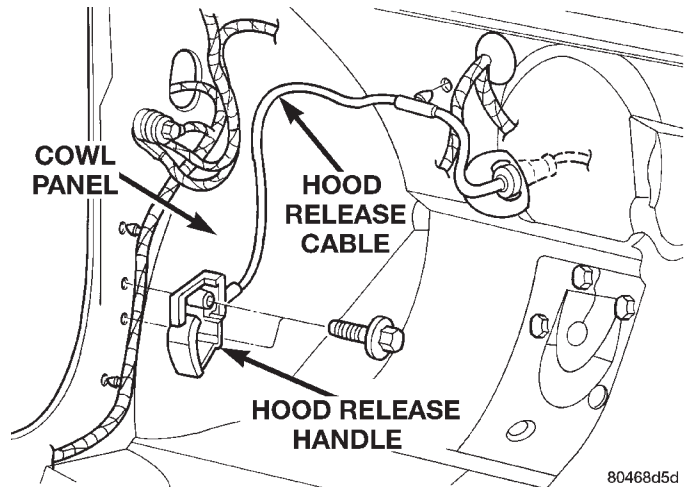

Fig. 4 Hood Release Cable Handle
- (1) Remove hood latch.
- (2) Remove left front cowl trim panel.
- (3) Remove screws holding hood release handle to inner cowl panel (Fig. 4).